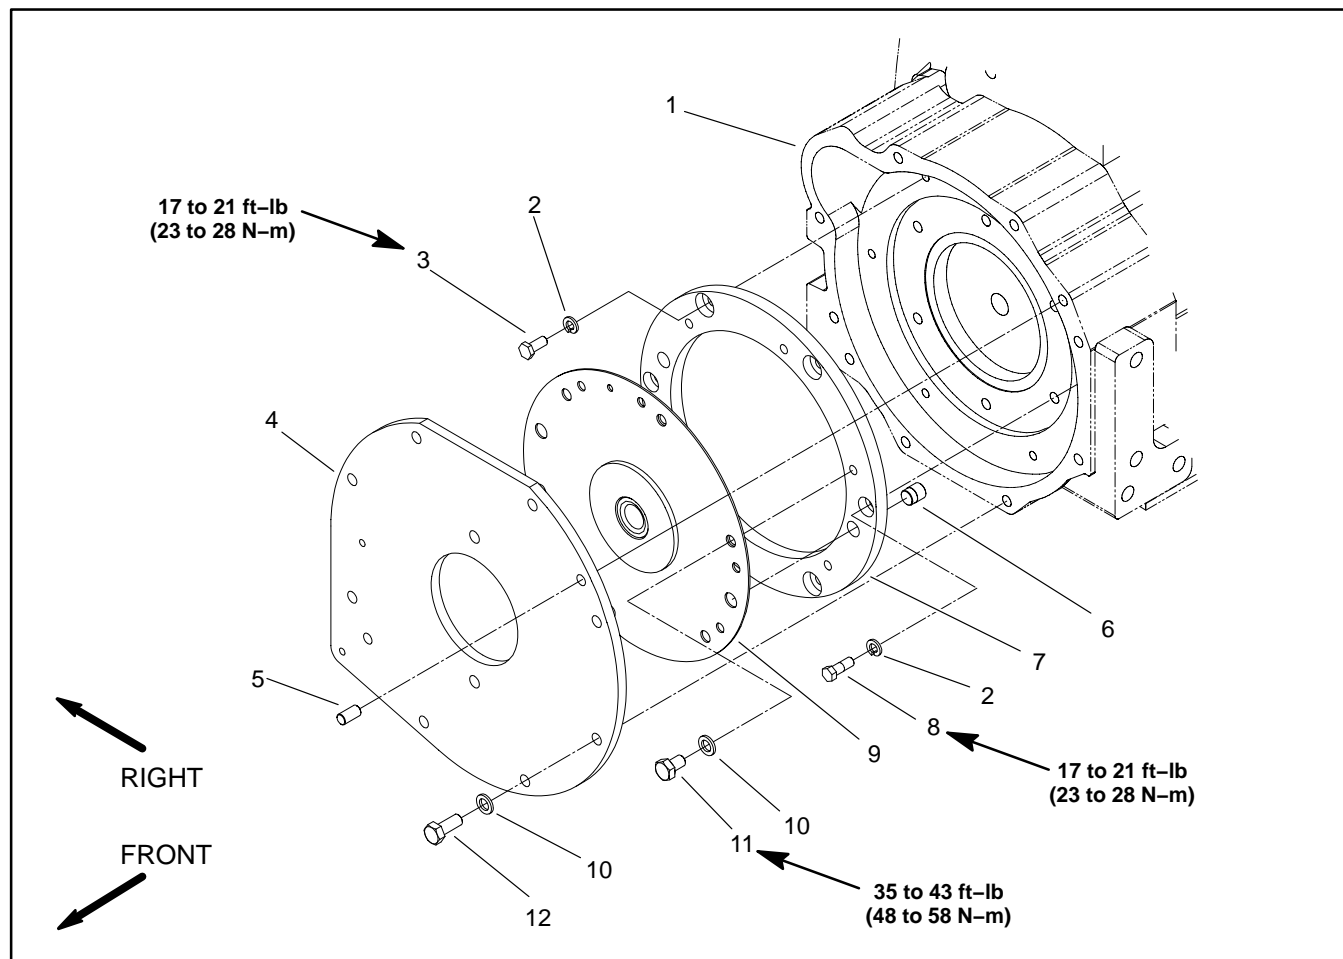

Figure 16
2. Remove pump adapter plate, spring center coupling, and coupling spacer from engine using Figure 16 as a guide.